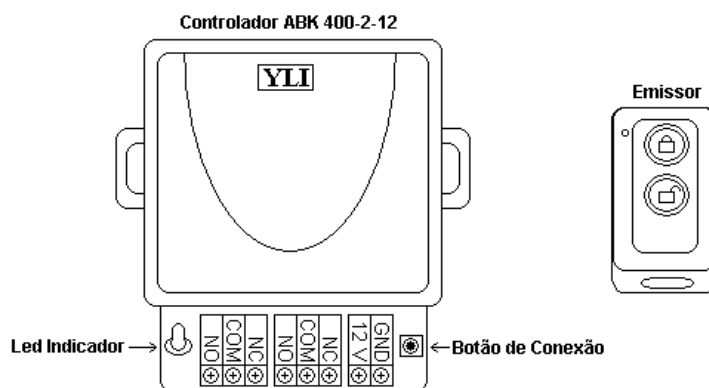

Figure 1. Main parts of the controller
The ABK-400-2-12 remote access control is designed to operate any type of latch, lock, or electrical system used to open doors. The controller consists of two basic components: (1) Controller and (2) Transmitter (See Figure 1 for details).